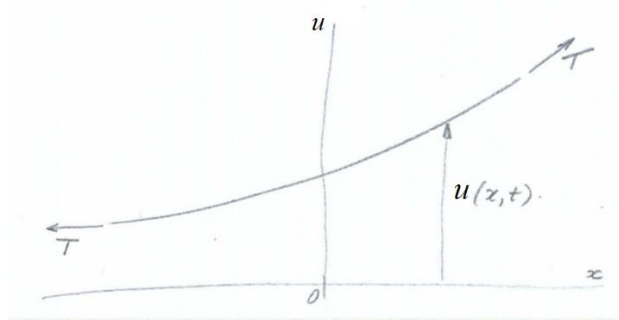

Figure 1 Taut string under tensile load T : (a) general view; (b) infinitesimal element
Consider a taut string of mass m per unit length stretched by a constant tension load T (Figure 1). The string undergoes small-amplitude transverse vibration with frequency ω as described by the following formula: $u(x,t) = U(x)e^{-i\omega t}$ (vibration motion) (1) Do the following:
- (1) state the assumption made about the string tension T during the vibration motion u
- (2) draw free-body diagram (FBD) of an infinitesimal string element of length ds and write sum of y forces in terms of string tension T and slope α
- (3) apply small-displacement approximation and write the approximate expressions for ds , $\sin \alpha$, $\sin(\alpha + d\alpha)$
- (4) write the linearized expression for the sum of y forces
- (5) express the slope increment $d\alpha$ in terms of space increment dx and the relevant partial derivative of the displacement $u(x,t)$
- (6) apply Newton's law of motion (NLM) and write the NLM equation
- (7) write the governing equation for string vibration in terms of tension T , mass per unit length m , and the relevant partial derivatives of the displacement $u(x,t)$
- (8) define wavespeed c for wave traveling in a taut string in terms of tension T and mass per unit length m
- (9) write the wave equation
- (10) substitute Eq. (1) into item (9) and eliminate the time dependency $e^{-i\omega t}$ to obtain an ODE defining $U(x)$